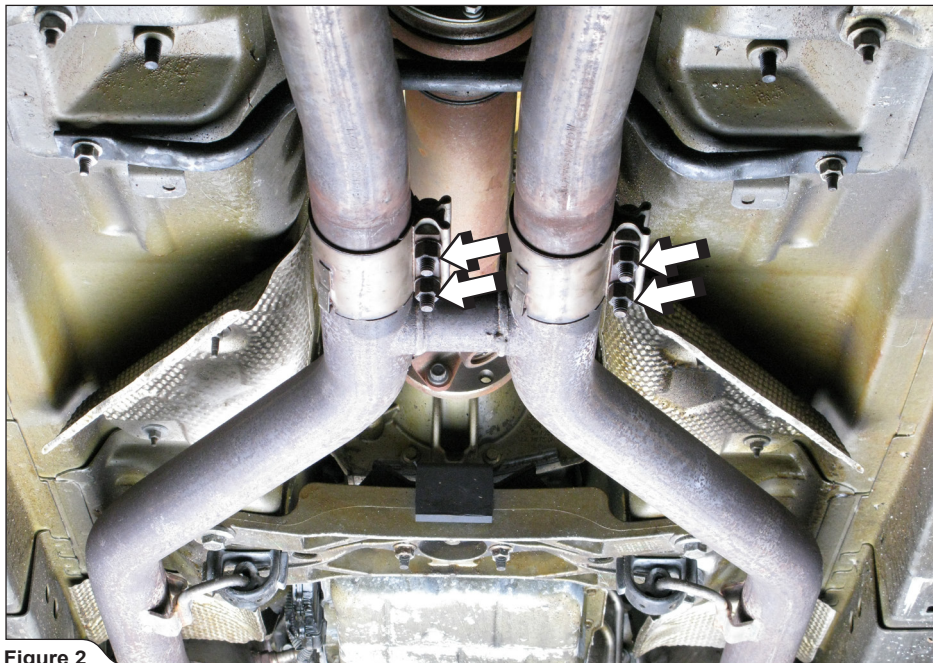

Figure 2
2. **For Slip-On and Evolution:** untighten the marked nuts, slide the clamps off the pipe joints and remove the stock middle pipes off the vehicle (**Figure 2**).